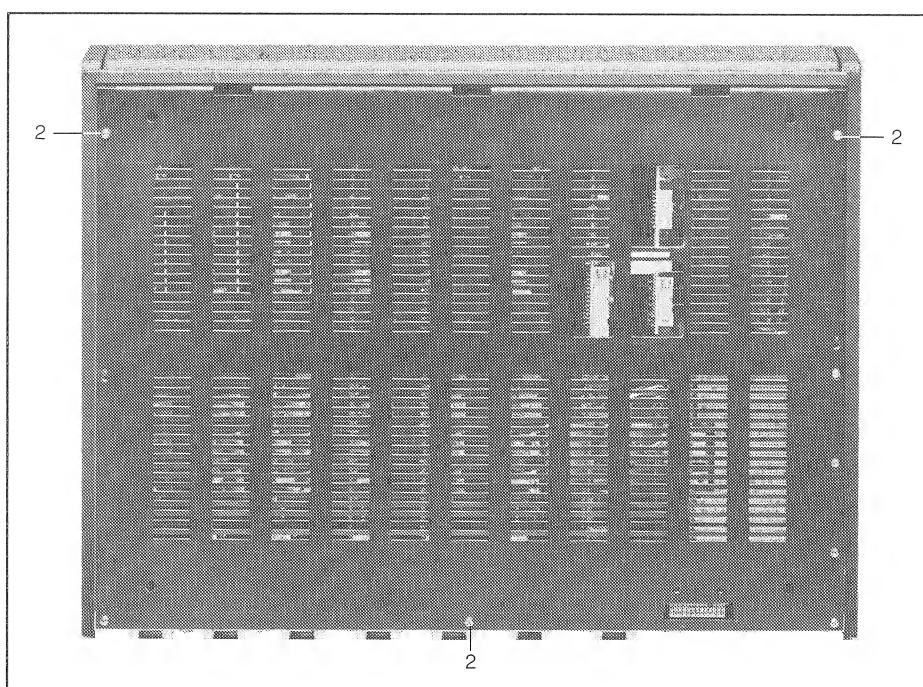

Fig. 2
- Unfasten the 3 screws [2], Fig. 2, on the bottom of the housing and remove the cover.